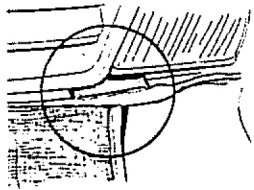

figure 5
- 2.3 If step 2.1 revealed the presence of mounting tabs, insert them into the appropriate spaces. See figures 5 & 6 for examples. If yours is a one-piece bra, skip to step 2.5.